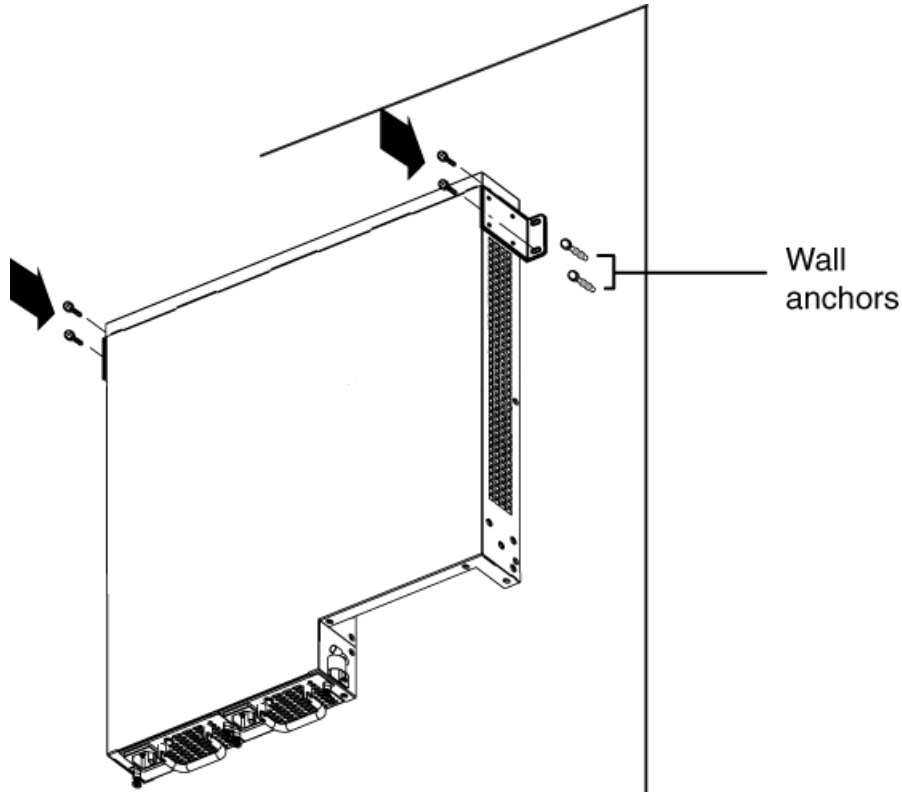

Figure 12: Wall mount mounting screw location
2. Secure the brackets to the wall using appropriate screws and wall anchors (not provided) Figure 12: Wall mount mounting screw location on page 66.